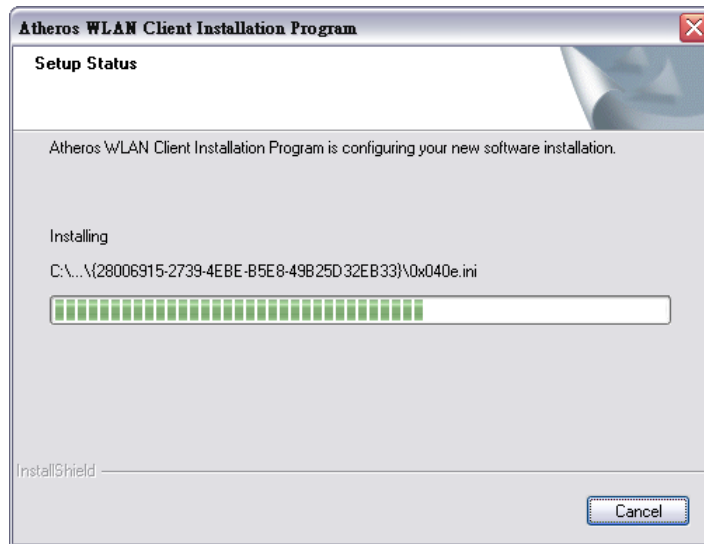

Figure 6-37: Wireless Driver Installation
Step 13: Figure 6-37 shows the WLAN driver is being installed.